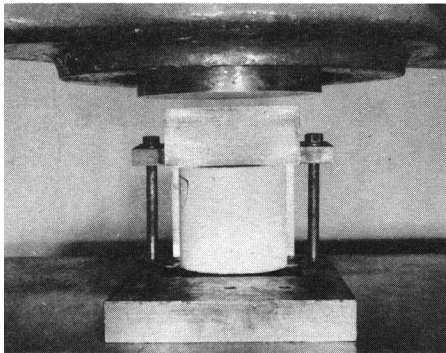

Fig. 1. Shear device in use,
(b) Shear Device.- The shear device shall consist of an apparatus in which the test specimen can be clamped and supported so that bending stresses are minimized across the longitudinal plane along which the shear load is applied. A suitable apparatus is shown in Figs. 1 and 2.
4. Procedures to be used with the apparatus as shown in Figs. 1 and 2 are as follows: